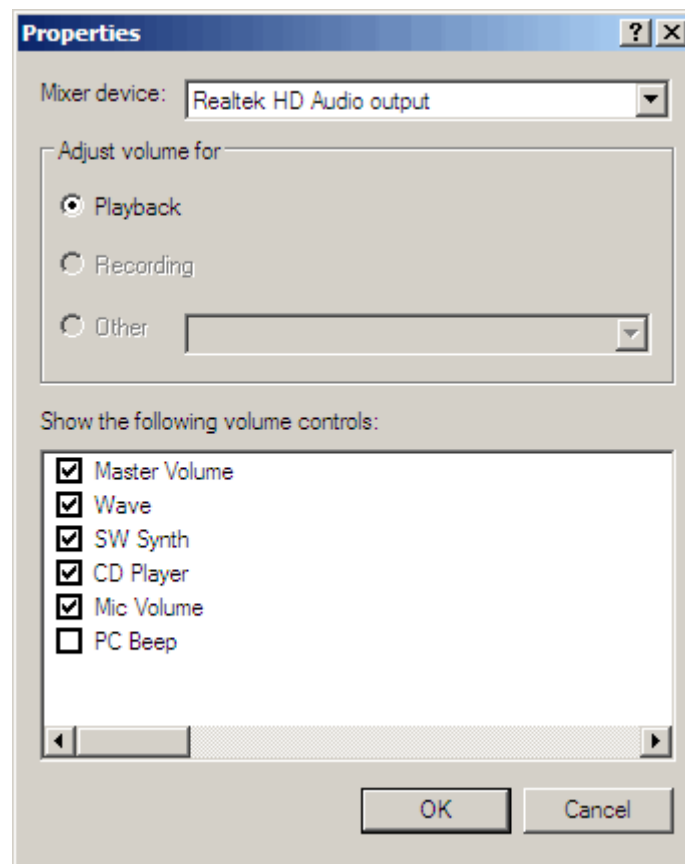

Figure 4.7 Dialog for choosing soundcard and input/output channels
- 6) Click on menu 'Options->Property' and select soundcard channel that will be used for output (playback), as shown in Fig. 4.7.